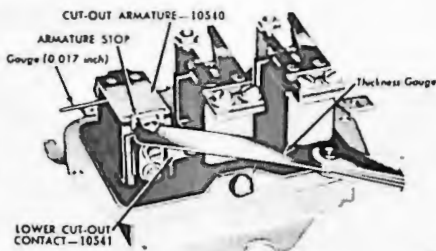

Fig. 13—Setting Air Gap on Cut-out Contacts.
(1) **SET AIR GAP AND CONTACT SPACING.** Place a 0.017 inch thickness gauge (or round stock) between the armature and core (fig. 13). Lower the armature stop until it is resting on top of the armature (10540) and at the same time raise the lower contact until the point gap is 0.010 inch. Tighten the two screws securing the lower contact after this adjustment is made.